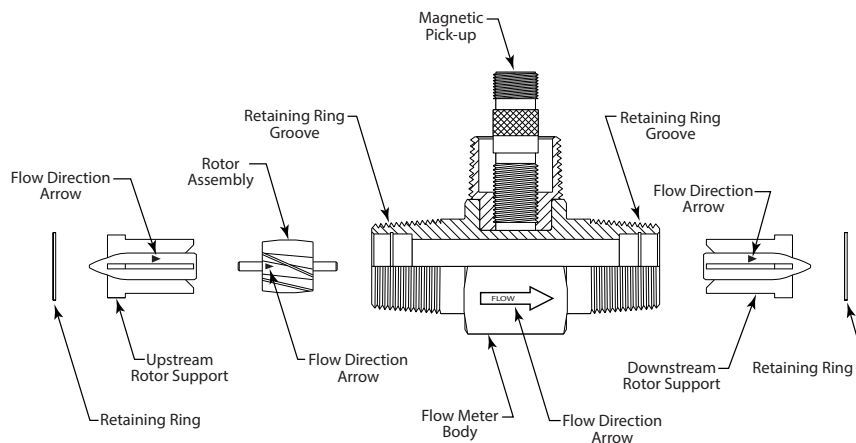
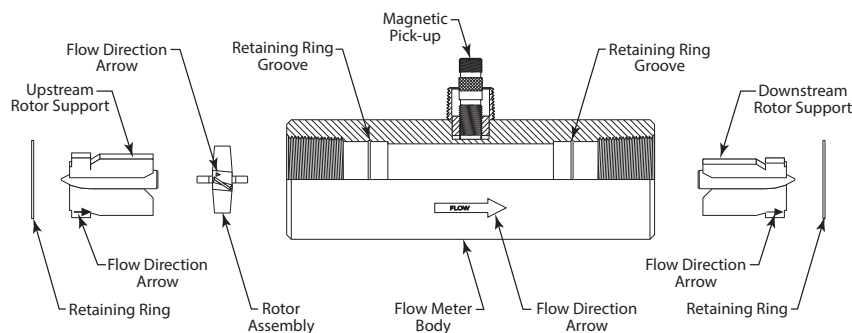
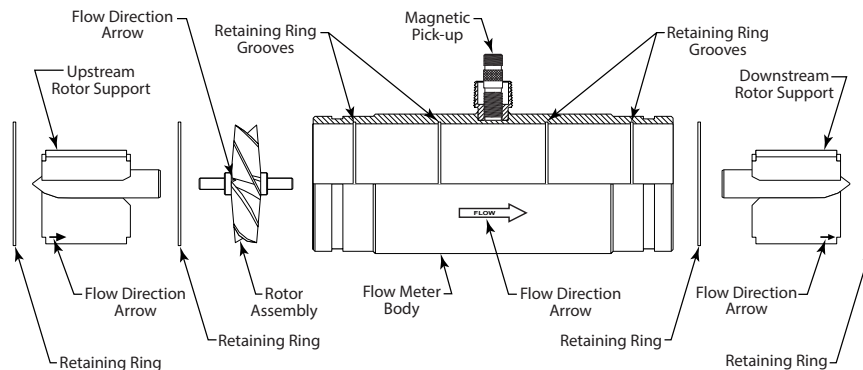

Figure 1: Component positions for B110-375...B111-115 and B111-121
Figure 2: Component positions for B111-120 and B111-130
Figure 3: Component positions for B111-140 and B111-200
1. Refer to *Figure 1*, *Figure 2* and *Figure 3* for relative positions of repair kit components.
NOTE: 4 in. and larger meters have two retaining rings (one on either side of the rotor) that require removal before the rotor can be removed (see *Figure 3*).
Before reassembly, note that an arrow is cast or engraved on each component. The arrow indicates the primary flow direction. When reassembled, the arrowheads must point in the direction of the fluid flow. The arrows must also be oriented in the up position on both rotor supports. The magnetic pickup side of the body signifies the up position. Performance of repair kit calibration is in the up position. Reinstallation of the repair kit in the up position ensures continuation of accurate measurements. Figure 1, Figure 2, and Figure 3 show the proper alignment and orientation of the repair kits.
NOTE: 4 in. and larger meters have a retaining ring at both ends of the rotor (see Figure 3).